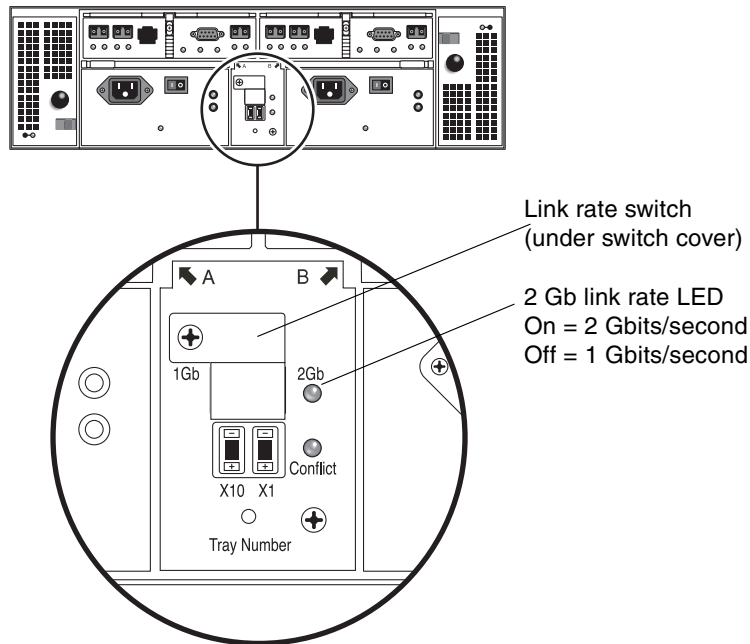

FIGURE 3-2 2 Gb Link Rate LED
1. Locate the link rate switch at the back of the array, between the two power supplies (FIGURE 3-2).